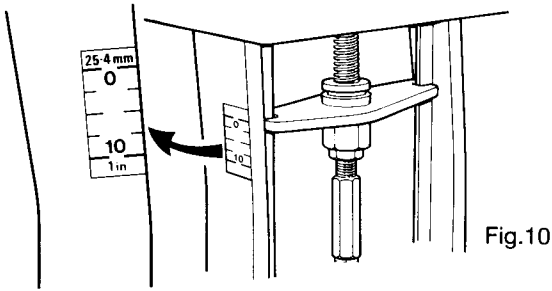

Fig.10
- 8. Whilst checking actuator travel over full stroke of valve, run actuator to fully retracted position. Select self-adhesive indication scale to match valve stroke, from set of four scales provided. Fix scale along outside edge of actuator mounting bracket, in position where it will be most clearly visible, lining up top edge of anti-rotation plate on actuator spindle with position '0' on scale (fig. 10).